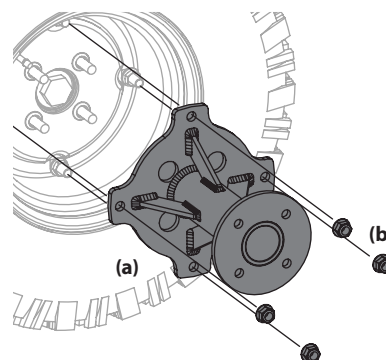

Figure 4-15
- If necessary, Remove the dual wheel adapter (a) by removing the four flange lock nuts (b). See Figure 4-15.